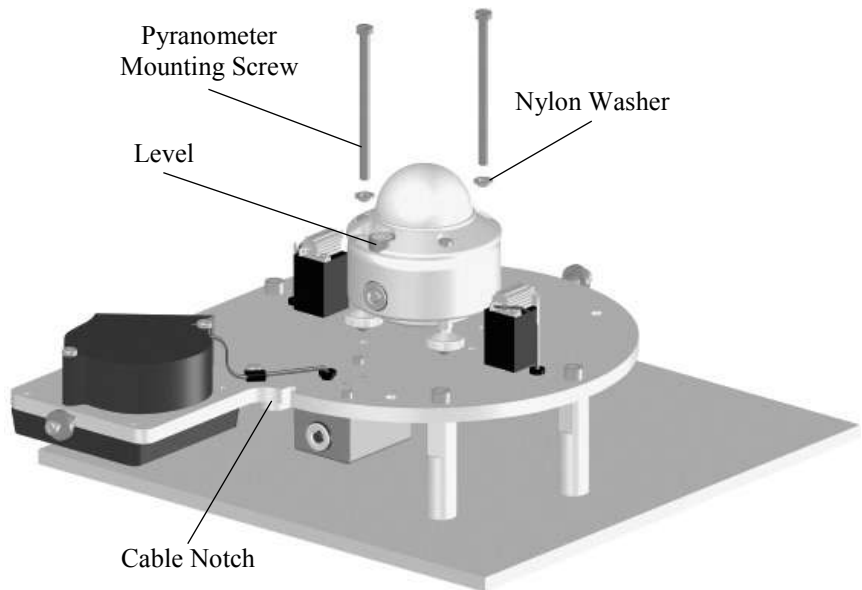

FIGURE C-7. Mounting the pyranometer to the CVF4
5. Loosely mount the pyranometer on the CVF4 using the mounting screws and washers. Do not fully tighten the pyranometer's two mounting screws (FIGURE C-7).